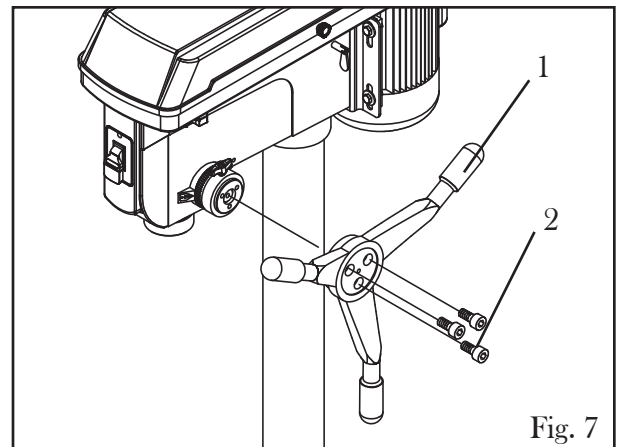

Fig. 7
7. Install the feed handles (Fig. 7 - 1) into place using three M8X12mm socket head screws (Fig. 7 - 2).